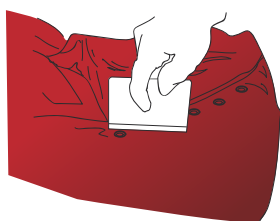

Fig. 18
- › With a squeegee go all around the rivet (FIG. 18) and pierce the rivet 2 or 3 times with a needle to evacuate any trapped air.